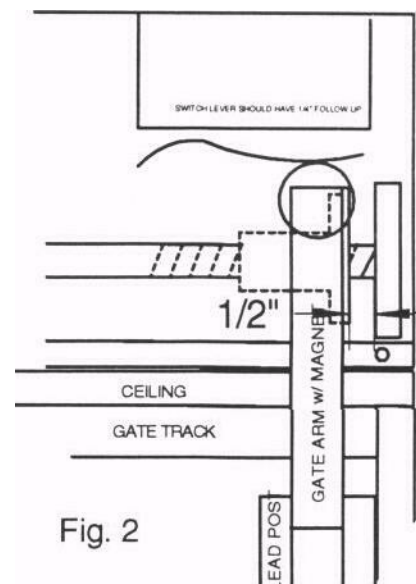

Fig. 2
7. Pull the gate to its fully closed position. Check that the drive nut is about 1/2" away from the closed side pillow block; manually rotate the lead screw if necessary (it will be easier to rotate with the drive o-ring removed). Place the gate arm magnet on the magnet flag; the middle of the magnet should be in the middle of the flag. Check that the gate switch is closed, but still has about 1/4" of follow-up. See Fig 2.